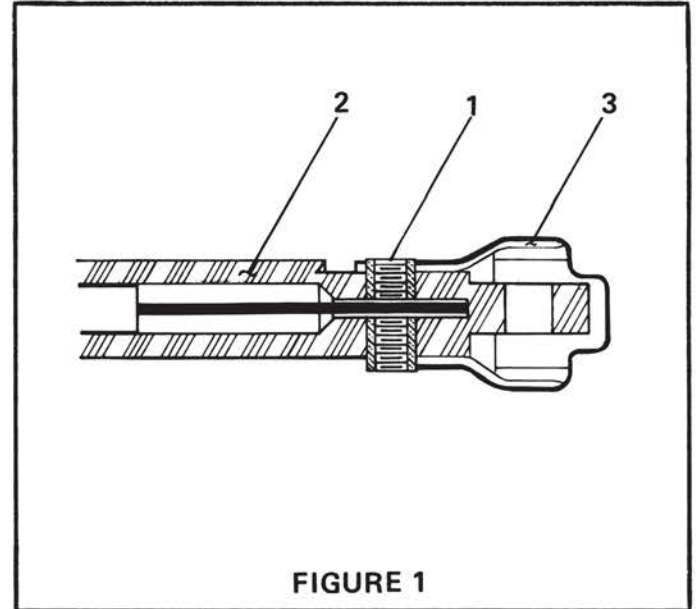

FIGURE 1
1. Install Clamp Insert (item 1) into Casing Guide (item 2) with small hole for cable core wire aligned with the long axis. The core wire hole is offset and must be oriented as shown in Figure 1.
2. In some cases (under 40 H.P. and on some older models) a latch is required to retain the Casing Guide to the lever. If required, carefully spread ears of Latch (item 3) and snap in place over ends of Clamp Insert as shown in Figure 1.